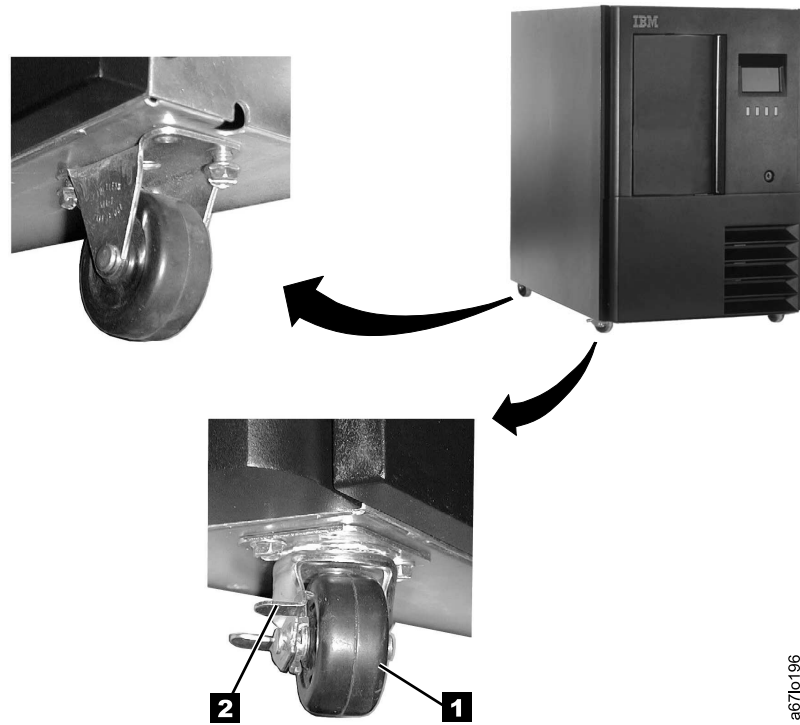

Figure 10. Locking front casters
2. Lock the two front casters **1** in place by turning the latch **2** counterclockwise (see Figure 10).